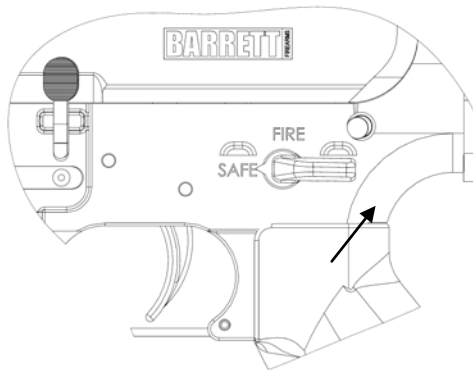
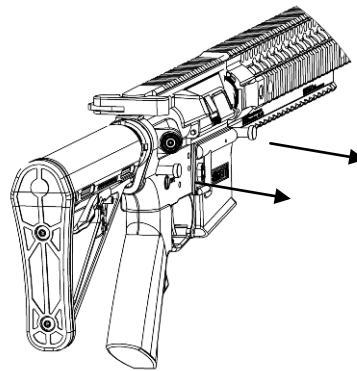

Figure 19-1
Figure 19-2
1. Ensure rifle is unloaded and clear by following the steps in the previous section. With the safety on and bolt closed (Figure 19-1), push the takedown pin (rearward most pin) until it clears its detent then pull it until it stops. Push the pivot pin (forward most pin) until it clears its detent then pull it until it stops. (Figure 19-2). Separate the upper and lower receivers.